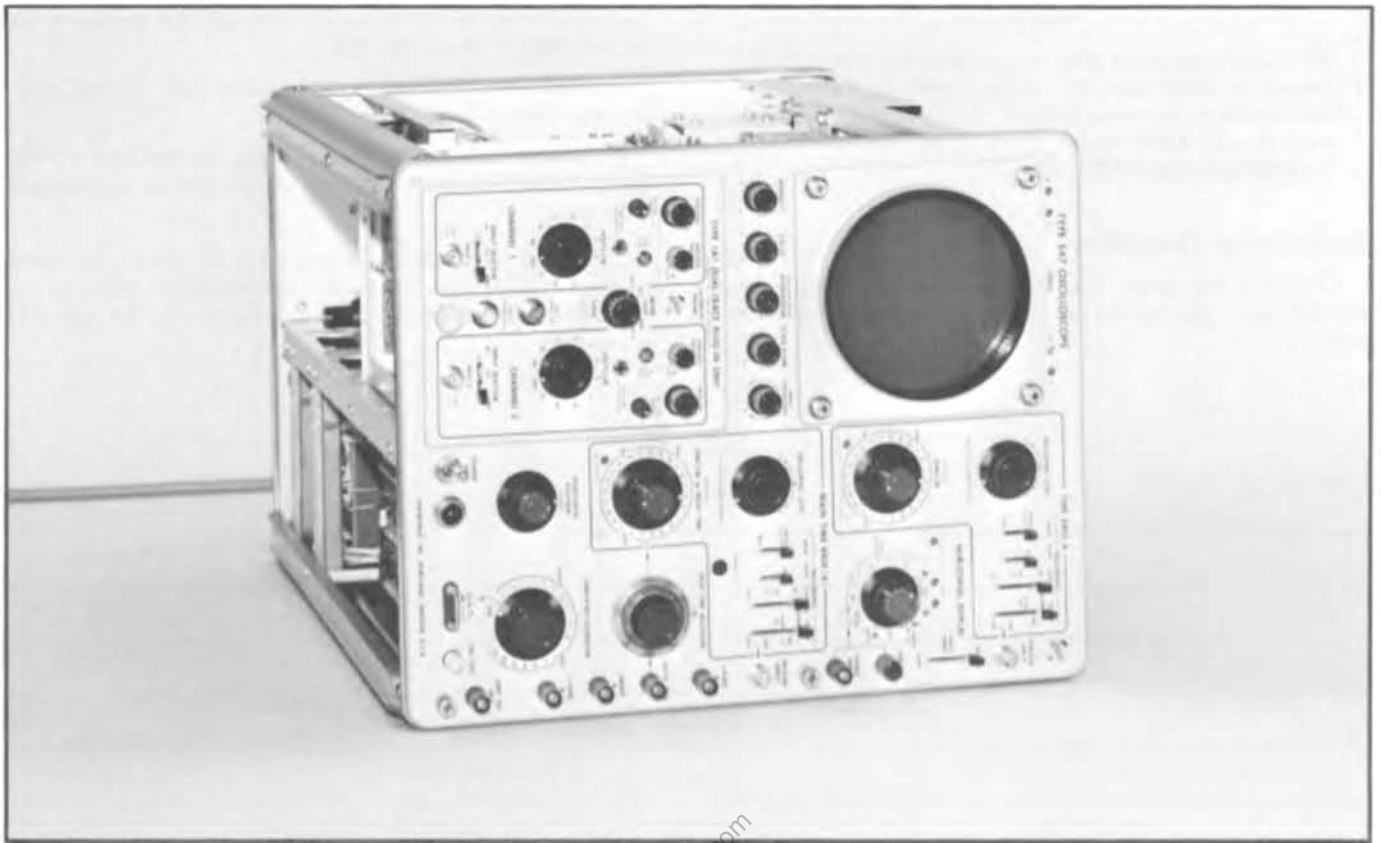

Fig. 7-2. Equipment setup for steps 1 through 4.
a. Equipment setup is shown in Fig. 7-2.
- a. Equipment setup is shown in Fig. 7-2.